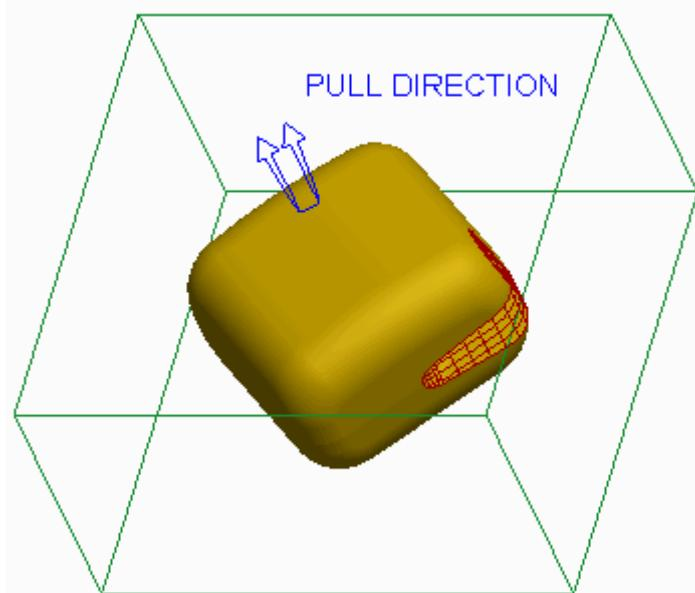

Figure 1 – Meshing a Boundary Quilt
- Mesh — Meshes the boundary surface in the graphics window. In Figure 1, the boundary surface is meshed.